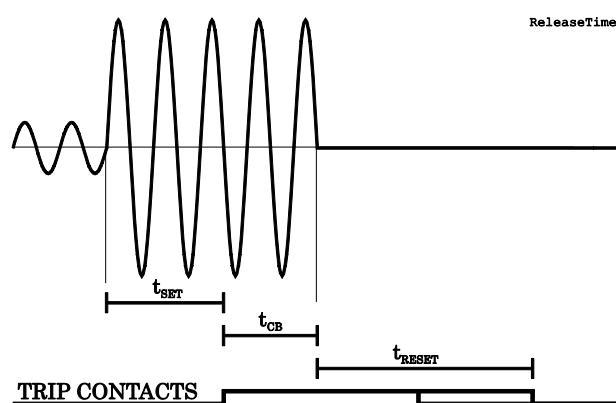

Figure 5.3-2 Reset time is the time it takes the trip or start relay contacts to open after the fault has been cleared.
Figure 5.3-2 shows an example of reset time i.e. release delay, when the relay is clearing an overcurrent fault. When the relay's trip contacts are closed the circuit breaker (CB) starts to open. After the CB contacts are open the fault current will still flow through an arc between the opened contacts. The current is finally cut off when the arc extinguishes at the next zero crossing of the current. This is the start moment of the reset delay. After the reset delay the trip contacts and start contact are opened unless latching is configured. The reset time varies from fault to fault depending on the fault size. After a big fault the time is longer. The reset time also depends on the specific protection stage. The maximum reset time for each stage is specified in chapter 12.3. For most stages it is less than 95 ms.